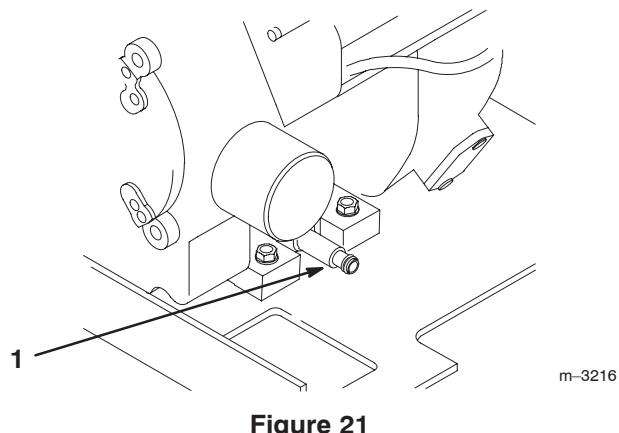

Figure 21
- Open the drain valve by turning it counterclockwise, pulling out as you turn it (Fig. 21).